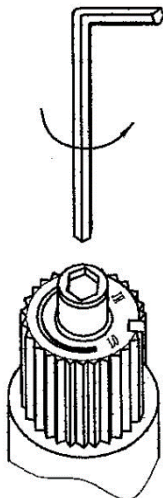

Figure 2
11. Remove the center screw by turning it counterclockwise with a hexagonal wrench 5/32 in. or 4 mm. See Figure 2